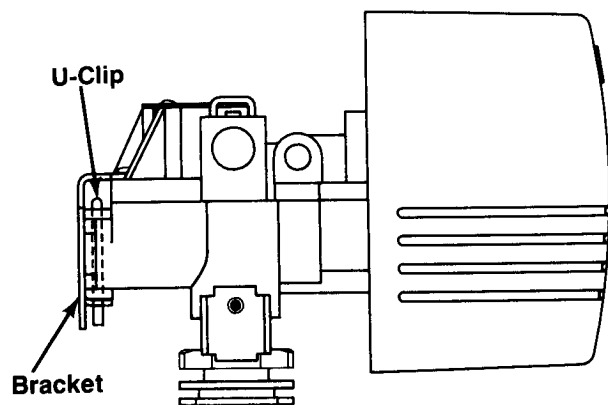

FIG. 6
**⚠ CAUTION:** When reinstalling back plate to control valve, make sure the u-clip fully engages the two bottom holes of the bracket (Fig. 6). Secure bracket from the top with the two mounting screws provided.